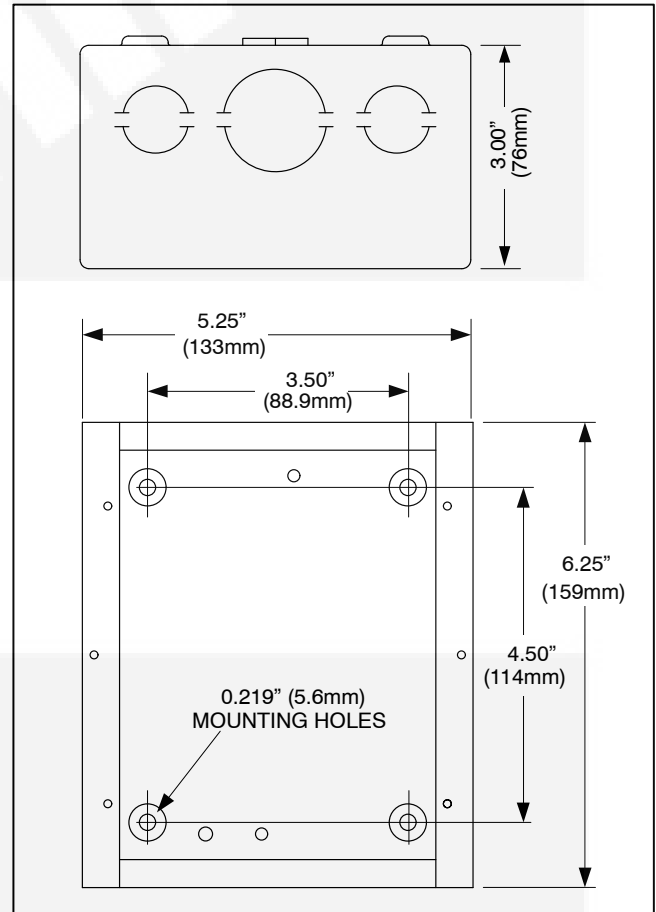

FIGURE 5. ANNUNCIATOR CONTROL BOX FOOTPRINT
2. Locate the desired location on the wall and use the box as a template to mark the required holes (see Figure 5). Be sure to check for wiring, plumbing, and gas lines behind the wall before cutting or drilling.